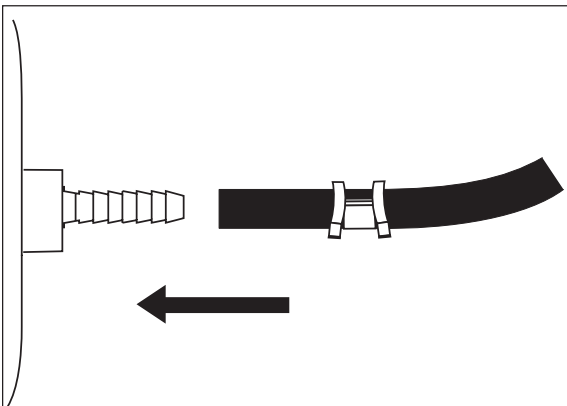

Figure 7
- G. Slide air line clamp onto the air line. Push the air line onto the stem, covering all the barbs (Figure 7). With pliers slide the air line clamp upward until it fully covers the barbed section. Repeat for the other side.
- E. Push the air line onto the stem, covering all the barbed section (Figure 7). With pliers slide the air line clamp forward until it fully covers barbed section.